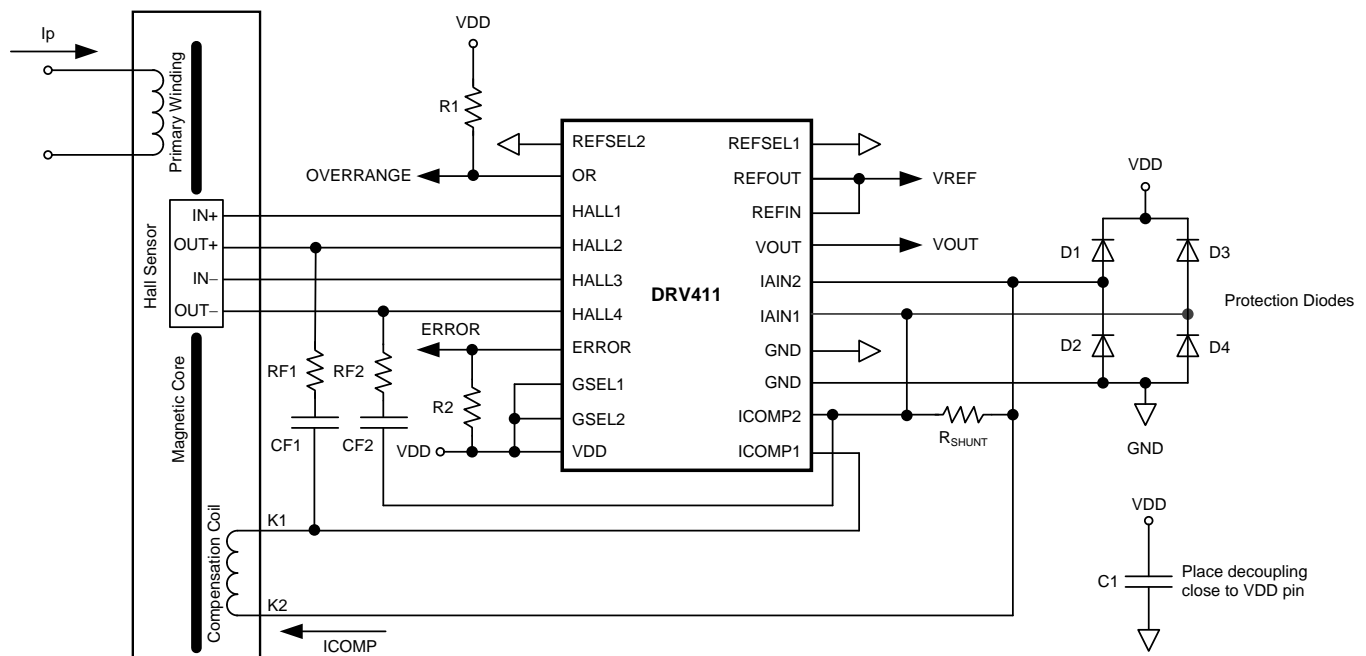

Figure 57. Application Example with External Gain and Compensation Setting (GSEL1 and GSEL2 set High), No Current Spinning
- Op-amp mode can be used in cases where modes Gain_1 to Gain_3 do not lead to an acceptable frequency response from the sensor module. In this mode, external compensation must be designed in to suit the sensor requirements (see Figure 57).
- DRV411 can be used with symmetrical GaAs Hall sensors. However, because of the inherently low sensitivity of GaAs sensors, the internal gain (compensation) may not be sufficient. In such cases, use op-amp mode to make the system stable with external compensation. In op-amp mode, the excitation circuit provides a constant 0.74 V across the HALL1 and HALL3 outputs, with HALL3 referred to GND. Connect the Hall outputs to the HALL2 and HALL4 pins (see Figure 57). For Hall sensors with large input impedances, do not exceed the common-mode input range of the op-amp inputs (see the Electrical Characteristics section).